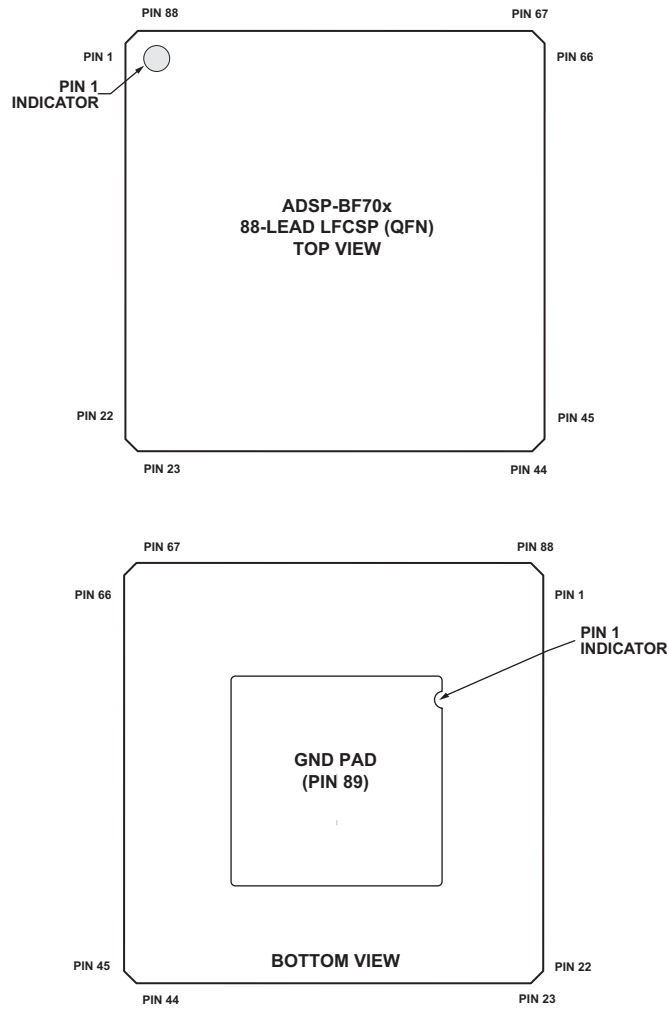

Figure 52. 12 mm × 12 mm 88-Lead LFCSP (QFN) Configuration
Figure 52 shows an overview of signal placement on the 12 mm × 12 mm 88-Lead LFCSP (QFN).
*Pin no. 89 is the GND supply (see Figure 52) for the processor; this pad must connect to GND.